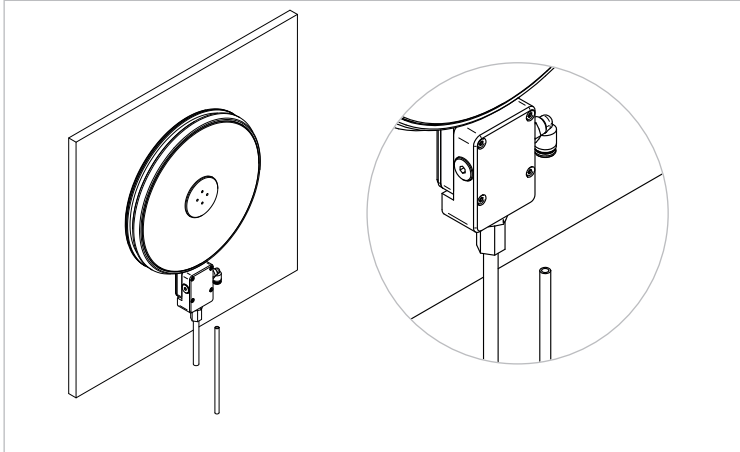

Figure 10: Optional compressed air connection
- To do this, use an externally calibrated 6mm compressed air hose (Figure 10). Alternatively, you can also use a different fitting with G1/8" if a different hose diameter is required.